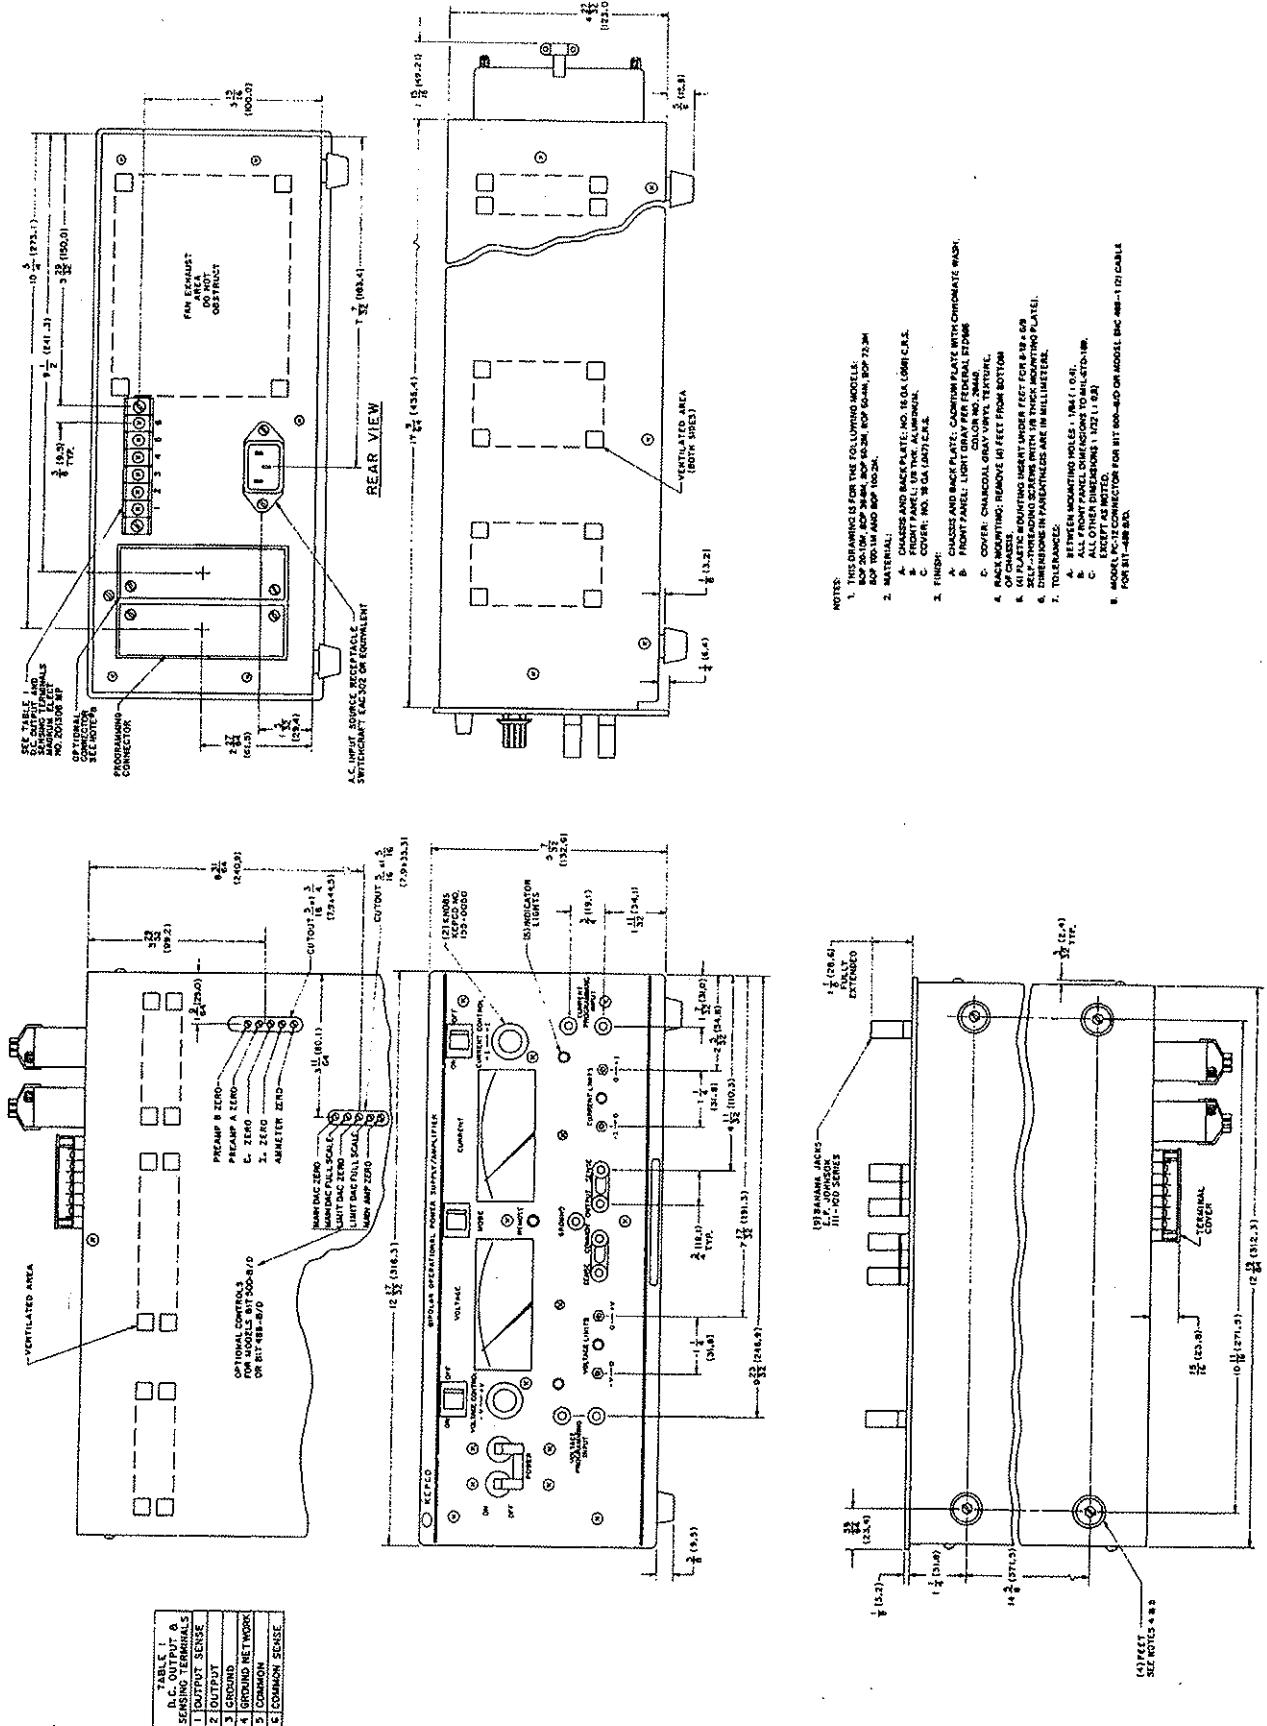
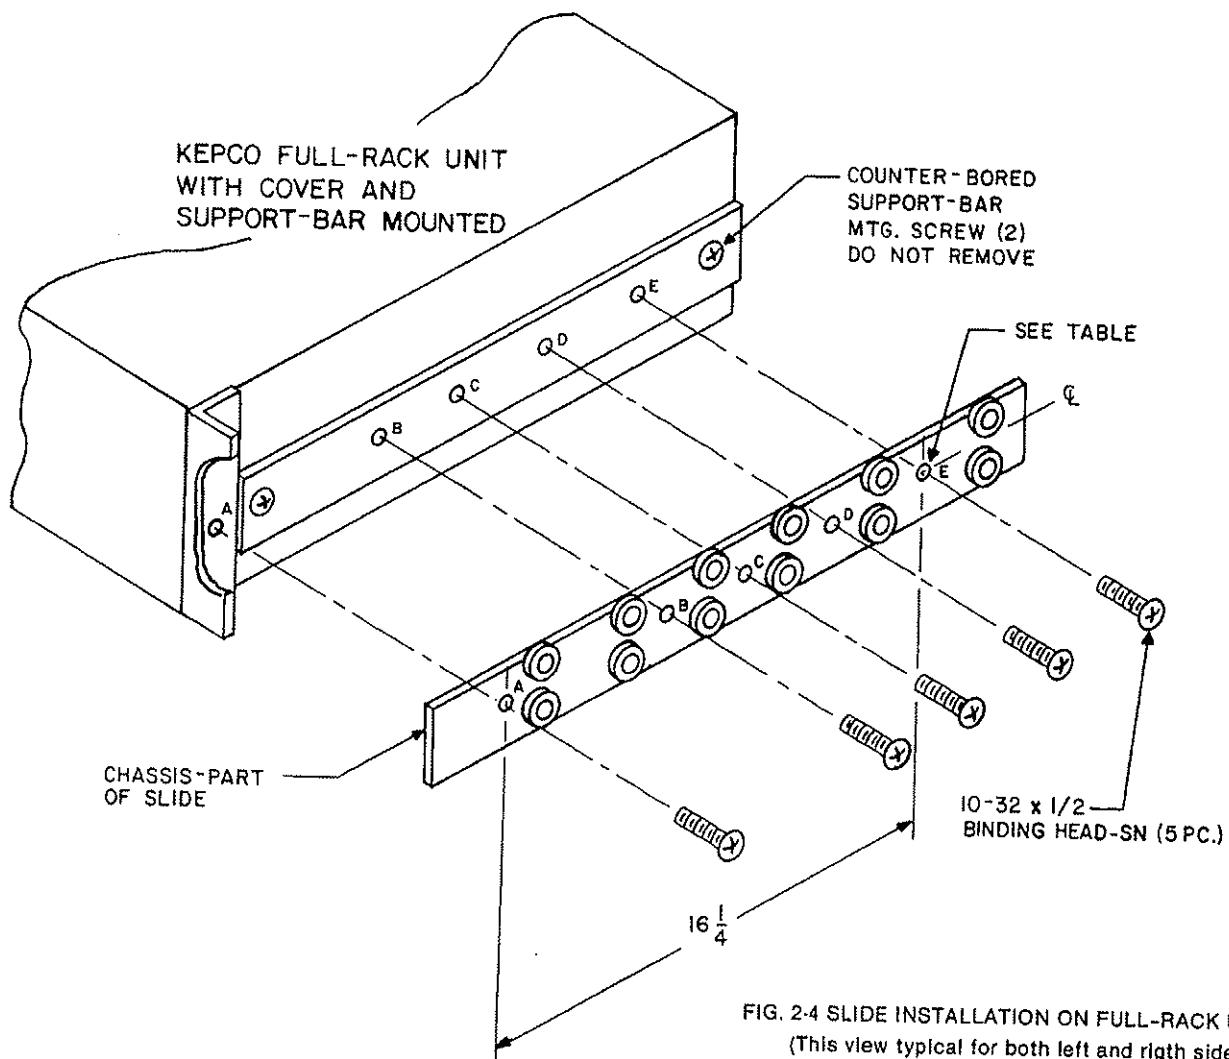

FIG. 1-4 MECHANICAL OUTLINE DRAWING.
FIG. 2-4 SLIDE INSTALLATION ON FULL-RACK UNITS
- A) DIMENSIONS: See "Mechanical Outline Drawing". FIG. 1-4.
- B) FINISH: See "Mechanical Outline Drawing". FIG. 1-4.
- C) FRONT PANEL METERS: Two (2) "zero center" meters, monitoring the \pm d-c output voltage and the \pm d-c output current, are provided; 2½ inches wide, recessed; Accuracy, $\pm 2\%$ full scale.
2-11 These BOP models may be bench operated or installed in the RA-24 or RA-37 Rack Adaptors, as listed in Section I, Paragraph 1-13. Installation instructions are provided with the respective rack-adaptor models. For rack-mounting, or mounting onto any flat surface, the (4) bottom aluminum feet of the BOP must be removed. Four (4) plastic mounting inserts are provided on the bottom of the BOP chassis. See Section I, FIG. 1-4, "Mechanical Outline Drawing".
2-12 INSTALLATION OF FULL-RACK BOP MODELS (Refer to Section I, Fig. 1-4 and to FIG. 2-4).
2-15 PROCEDURE (Refer to FIG. 2-4):
- 4) Mount the chassis section of the slide to the left and right side of the BOP, as shown in FIG. 2-4. Use the same 10-32 x 1/2" Mounting Screws which you removed in step (1).